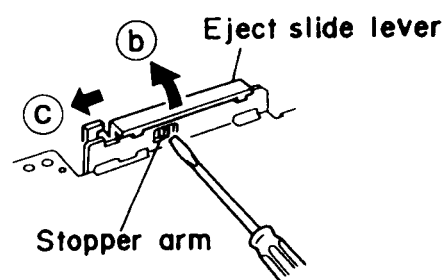

Fig. 5-19
(See Fig. 5-19)
1. Place the cassette mechanism back side frontward and disengage the stopper arm ⑤ of the Eject slide lever by pressing it inwards through the opening of the chassis with a small screwdriver as shown in Fig. 5-19.
2. Disengage the Eject slide lever in the direction of arrow ③.